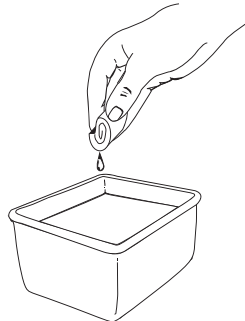

Fig. 24
3. Wash the filter in detergent and water (Fig. 24). Rinse the filter thoroughly and allow it to dry.